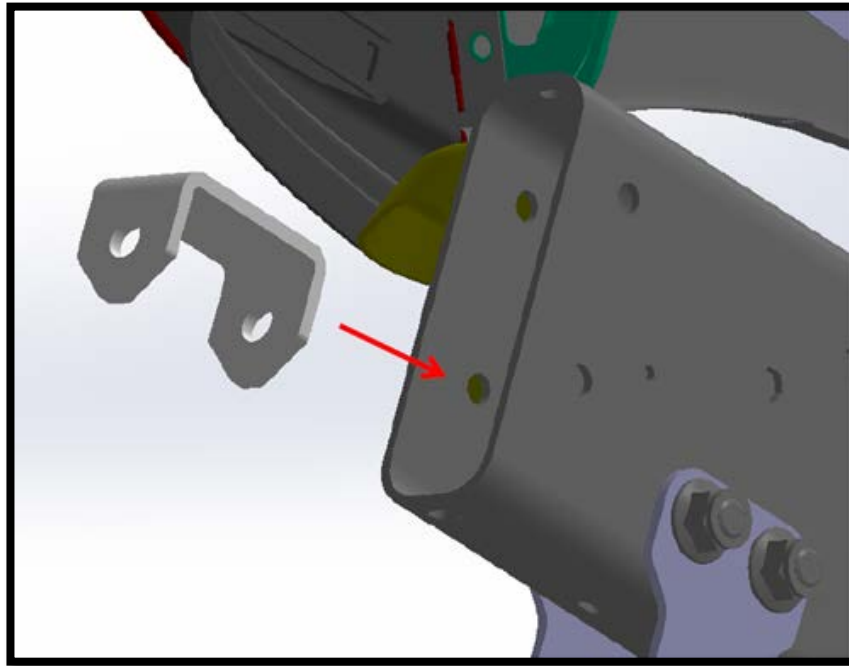

**Figure 4-Removal of OEM Anti-Crush Can**
10. Anti-crush spacers need to be installed inside the frame rail after the drilling operation. To get them into place, the OEM anti-crush spacers need to be removed. Use a large screwdriver to pry the anti-crush spacer out of the front of the frame rail; it is not necessary to completely remove it from frame. (see Figure 4)